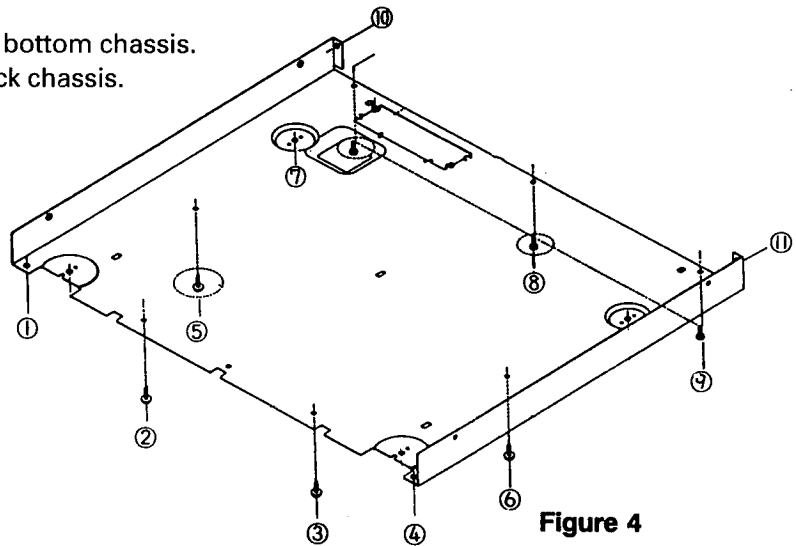

Figure 4
2. Remove the bottom cover (Figure 4).